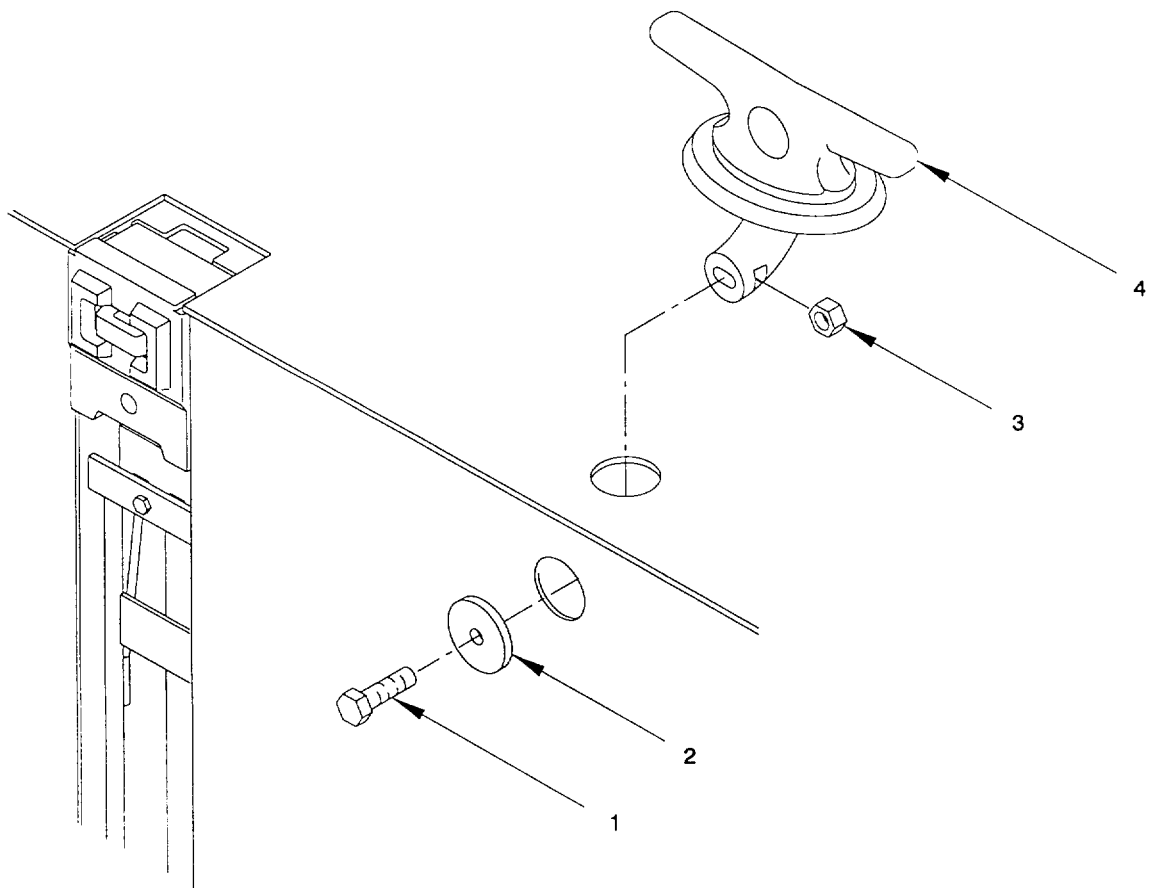

Figure 2-163. Mooring Cleat, Remove/Install.
a. Remove. (figure 2-163)
- (1) Remove hex head bolt (1), keeper plate (2) and hex nut (3).
- (2) Remove cleat weldment (4) from deck.
c. Install. (figure 2-163)
- (1) Position cleat weldment (4) through holes on deck and sides.
- (2) Apply antiseize to bolt (1) before assembly.
- (3) Position hex nut (3), keeper plate (2) and secure with hex head bolt (1).